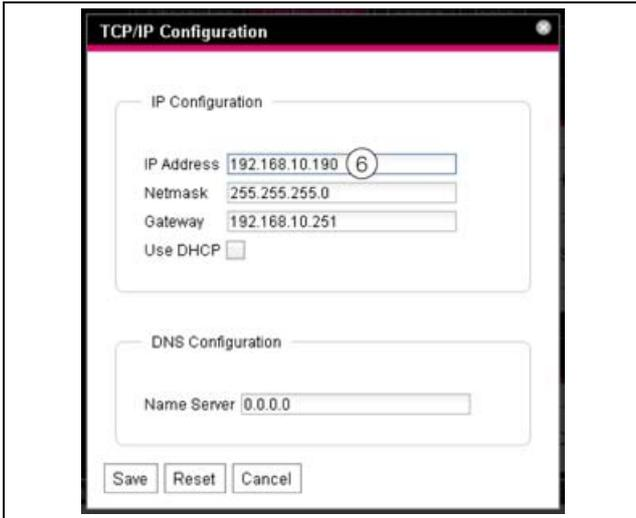

Fig. 50: Adjusting the TCP/IP settings
- In the **TCP/IP Configuration** window, change the device's IP address to an admissible network address (fig. 50, item 6).